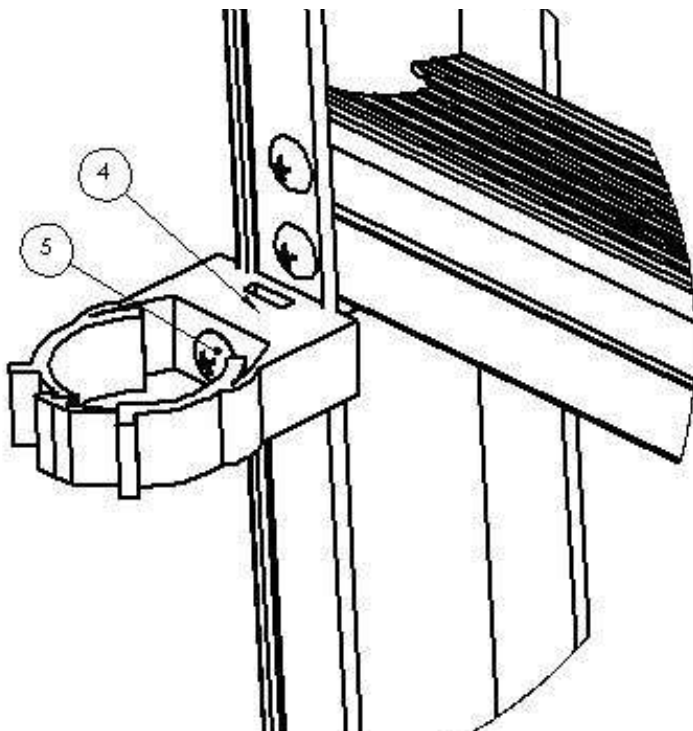
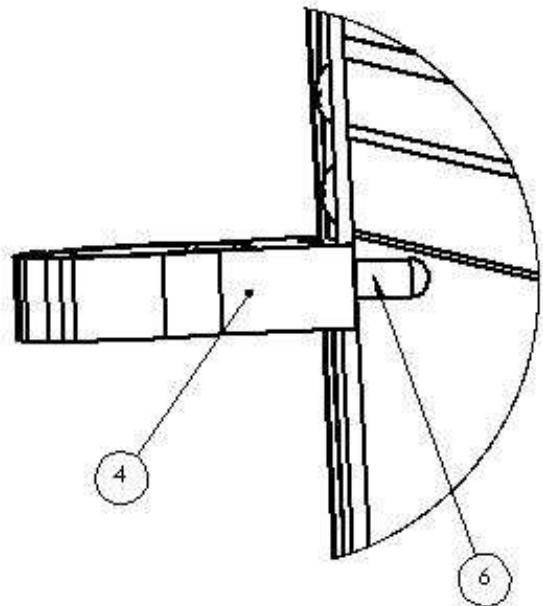

Figure 13a
Figure 13b
15) Use a drill with a Phillips bit to fasten the (#4) Plastic Pipe Clamp to the ladder as shown below in Figure 13a. The hose clamp should be attached with the clamp aligned with the bottom of the step, See Figure 13b. Place (#6) Vinyl Cap over visible portion of screw. Repeat this step for each tread on ladder.